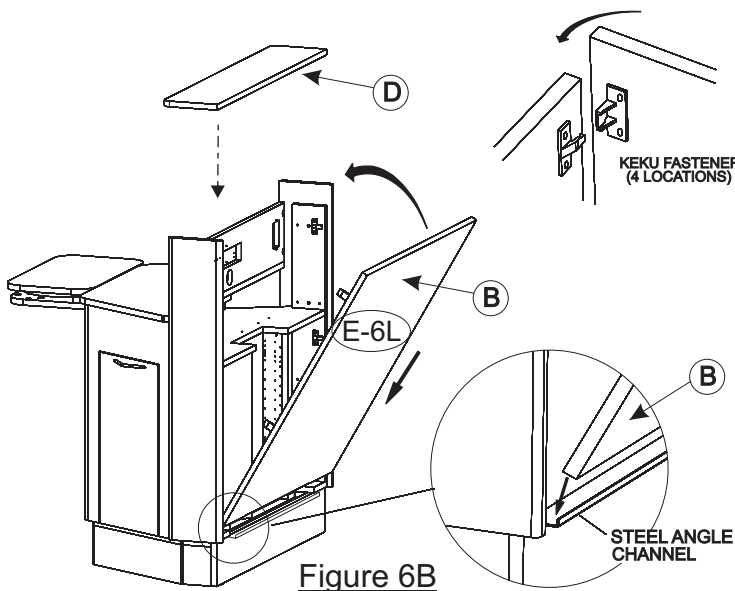

Figure 6B
For E-6L Models: Replace the Back Panel (B) by seating the bottom edge into the steel angle channel at the bottom of the rear opening (see Figure 6B). Tilt the top edge inward until all (4) Keku Latches are fastened. You may need to use a rubber mallet to tap the panel into position.)